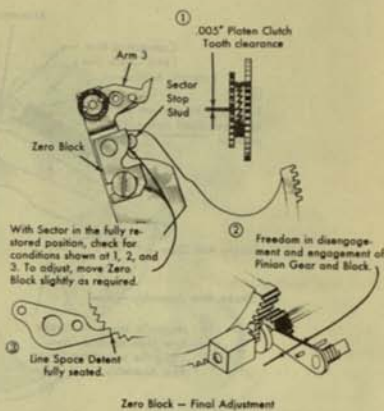

Figure 24
4. Restore the sector to its normal position against the zero block. Check to see if the pinion gear will slide in and out of pinion block freely and that there is .005" clearance between platen clutch teeth. If the above conditions are not met, it will be necessary to adjust the position of the zero block. This block is moved right or left, as the condition requires, until zero block shares the load of the restored sector with the line space detent and detent wheel. This should permit free disengagement and engagement of the pinion block and the gear and restore the platen clutch tooth clearance to its .005" dimension. This is important because when an ejection operation ends (sector is against the zero block), these platen clutch teeth must mesh accurately to insure proper line spacing or ejection on the succeeding operation (Figure 24).
Therefore, the zero block in this case must be moved so as to permit the sector to move slightly further to the left until the line space detent pawl shares the load of the restored sector. Check this adjustment by determining that the pinion and pinion block are free to disengage and engage freely, thus insuring that the line space detent is fully seated; also check for the .005" platen clutch tooth clearance. Note that any change made in the position of the pinion block and gear will require that the zero block be readjusted (see Figures 24 and 27).